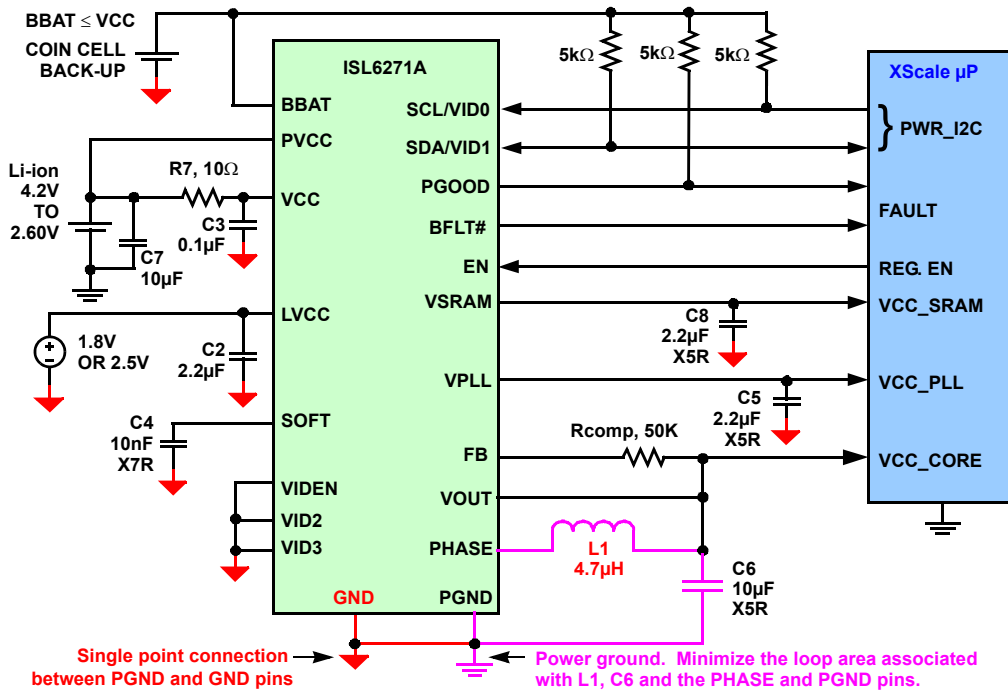

FIGURE 19. TYPICAL APPLICATION CIRCUIT
To minimize switching noise, it is important to keep the loop area associated with the phase node and output filter as short as possible. It is also important that the input voltage decoupling capacitor C7 be located as close to the PVCC pin as possible and that it has a low impedance return path to the PGND pin. In general a good approach to layout is to consider how switching current flows in a circuit, and to minimize the loop area associated with this current. In the case of the switching regulator, current flows from C7 through the internal upper P-MOSFET, to the load through the output filter and back to the PGND pin. *To maximize the effectiveness of any decoupling capacitor, minimize the parasitic inductance between the capacitor and the circuit it is decoupling.* Notice that Figure 19 illustrates the SIGNAL ground with RED highlighting. All components associated with these terminals should be tied together first. Be sure to make only one connection between this net and the PGND pin to avoid ground loops and noise injection points into sensitive analog circuitry.
- Do not leave pins VID2(5) or pin VID3(6) floating when using the I²C bus. Tie these pins to GND (16).
- Make sure that load current on VOUT returns to the pin 7 (PGND). Pin 16 (GND) functions as a quiet return for the LVCC loads. Tie Pin 16 to Pin 7 at a single point as in Figure 19.